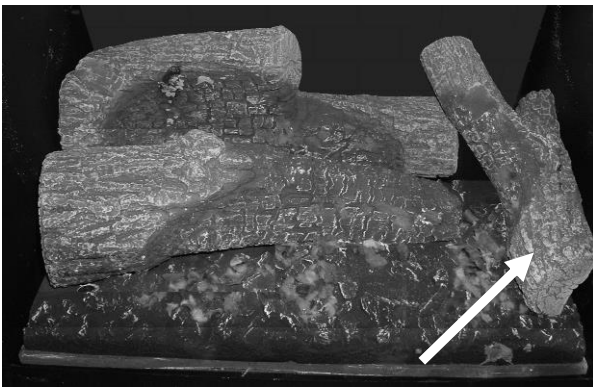

Figure 21 – Log 3 Position
- Place log 3 onto the end of log 1 as shown as shown in Figure 21.